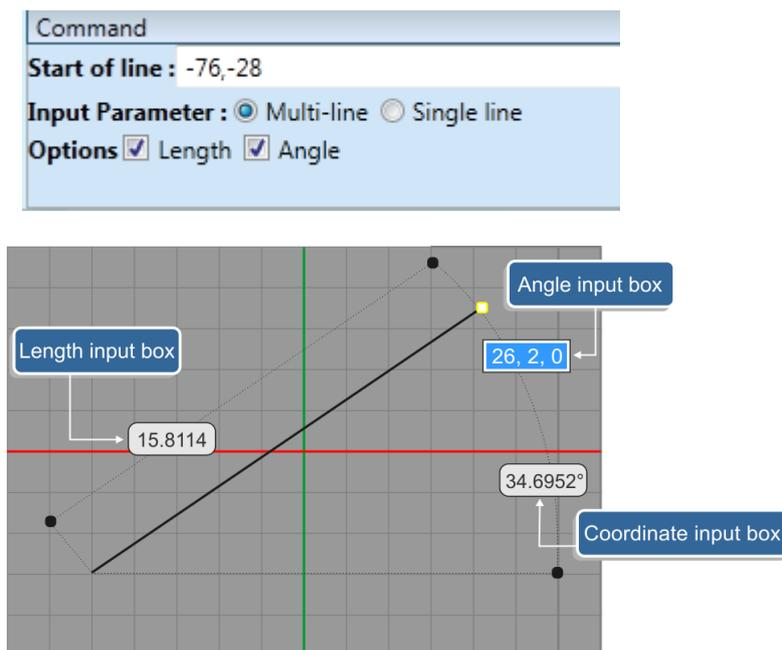

Figure 8. Creating a line.
2. Command window displays location of start/end of the line according to cursor position and other options, as shown in Figure 8.